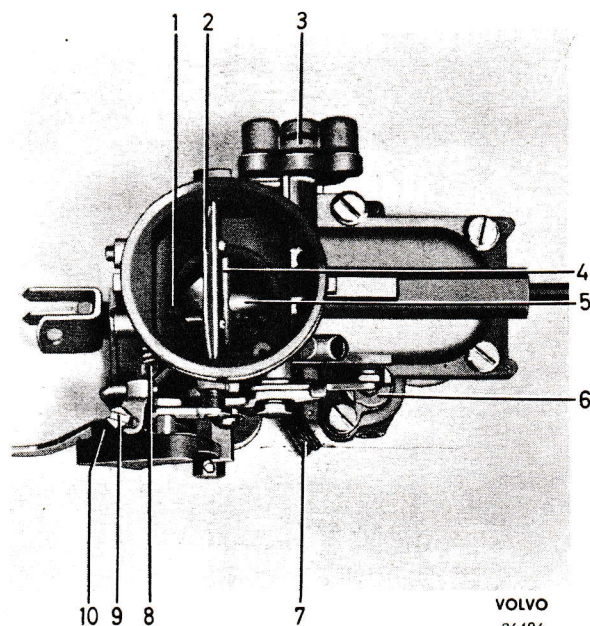

Fig. 73. Venturi position
The emulsion block beak (5, Fig. 73) should be in contact with the stay across the venturi. If this is not the case, loosen the venturi screw and adjust its position.
The pump plunger can be set for a short or a long stroke by means of the washer (6, Fig. 73). To alter the setting, lift the washer and give it half a turn. The normal setting is a short stroke, the highest cam on the washer being turned against the spring on the lever.
Screw out the rapid idling screw (9, Fig. 73) so that it is flat against its bracket on the underside. Then screw down the screw three and one half turns. Push in the choke control.
1. Adjust the idling speed to 500—700 r.p.m., by using the screw on the throttle flap lever (8, Fig. 73).
2. Adjust the fuel/air mixture with the idle fuel screw (7). First screw the screw inwards (leaner mixture) until the engine begins to run roughly and then slowly outwards until the engine runs evenly.